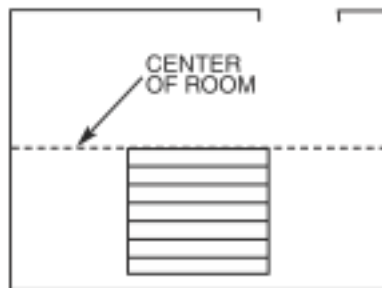

Fig. 1 Dry layout to determine width of border plank.
- Determine which direction the planks will run. Find the center of each of the end walls (the walls perpendicular to the long dimension of the planks) and place a pencil mark on the floor. Connect these points by striking a chalk line down the center of the room. Do a dry layout of planks from the center line to the wall running parallel to the long direction of the planks to determine the width of the last row of planks (Fig. 1).